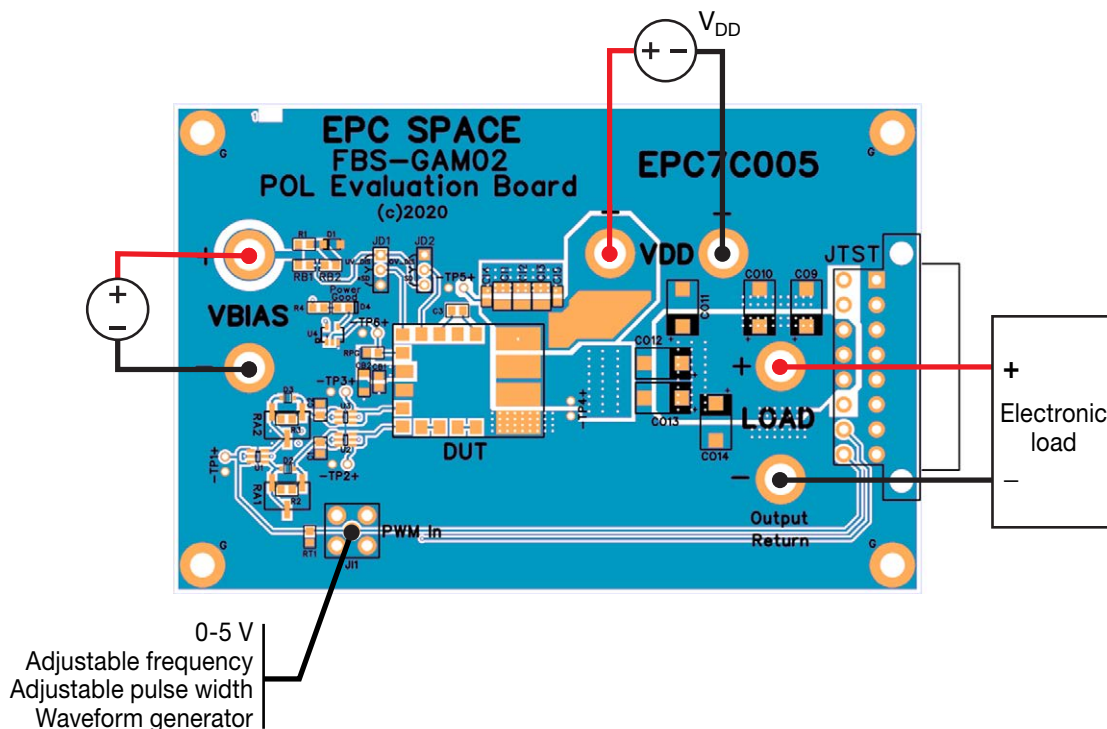

Figure 3. FBS-GAM02 POL Evaluation Board Test Equipment Connections: AC Switching Operation
Figure 3 shows the recommended connection to/from the Evaluation Board for switching operation.
The following test equipment is recommended to properly evaluate the EPC7C005 Evaluation Board as shown in Figure 3:
With the evaluation board connected to the test equipment as shown in Figure 3, the switching node (SN) waveform may be monitored using the following test sequence: